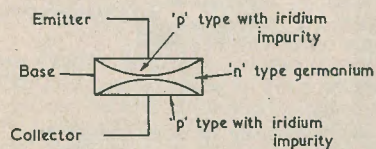
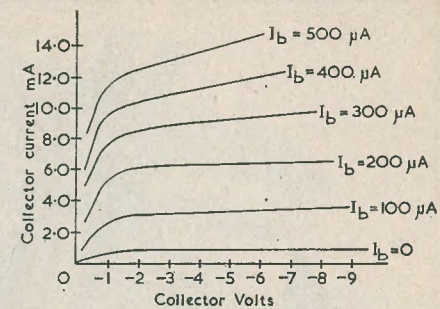

FIG. 4. Diagram of p-n-p junction transistor
FIG. 5. Collector characteristic of typical p-n-p junction transistor
**Junction Transistors.** The junction type transistor is more recent than the point contact type, and in some directions has distinct advantages over it. It is, however, not necessarily better in every case and does not render it obsolete. It can handle higher power, but has a lower limit of frequency. Its noise factor is appreciably lower. One method of producing the necessary junctions is by diffusing a metal called indium from both sides into a piece of 'n' type germanium. If properly controlled this produces two zones of 'p' type germanium separated by a thin layer of the original 'n' type material. The device is shown diagrammatically in Fig. 4. The junction transistor is capable of giving good amplification at extremely low values of applied voltage, as can be seen from the curves in Fig. 5, and amplifiers can be made with a high tension supply of 1.5 volts or less. Obvious applications for this device are in deaf aid amplifiers and local telephone amplifiers. A truly enormous field of application is available when these devices can be produced in quantity at a reasonable price. At present there is limited production in America, but none in Great Britain. Here